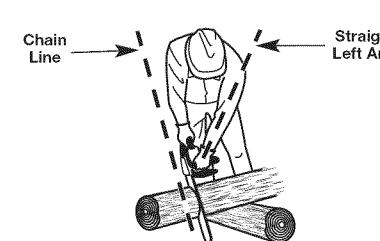

Fig. 15
- Keep the left arm locked in a "straight arm" position to withstand any kickback force (Fig. 15).
- Keep all body parts to the left of the chain line (Fig. 15).